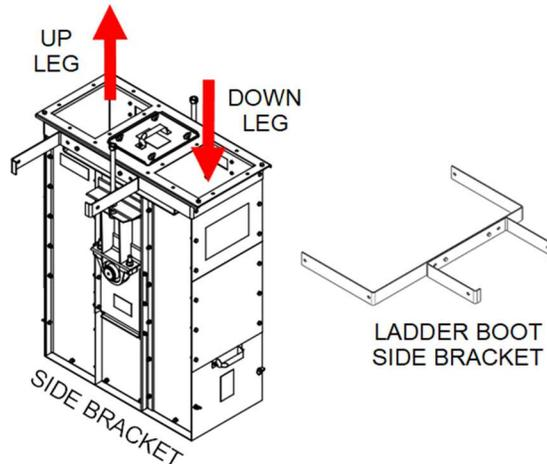

Figure 1
Step 1: Attach the ladder boot side bracket to the boot as shown in **Figure 1** using existing hardware from the boot assembly.